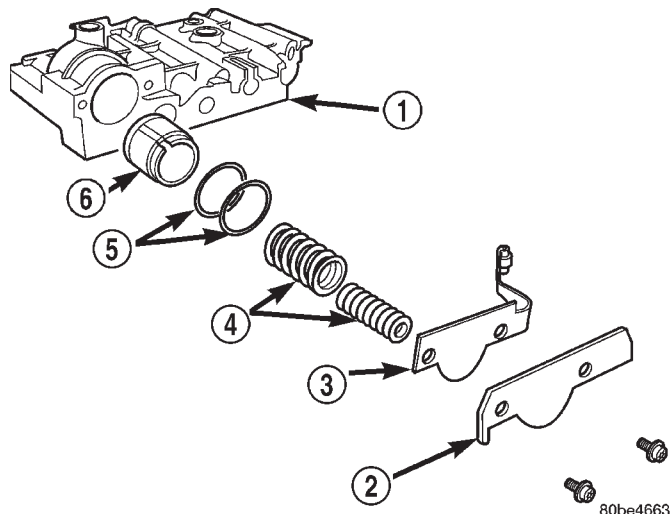

Fig. 143 2/4 Accumulator Assembly
- (7) Install 2/4 Accumulator components as shown in (Fig. 143). Torque 2/4 Accumulator retainer plate to 5 N·m (45 in. lbs.).